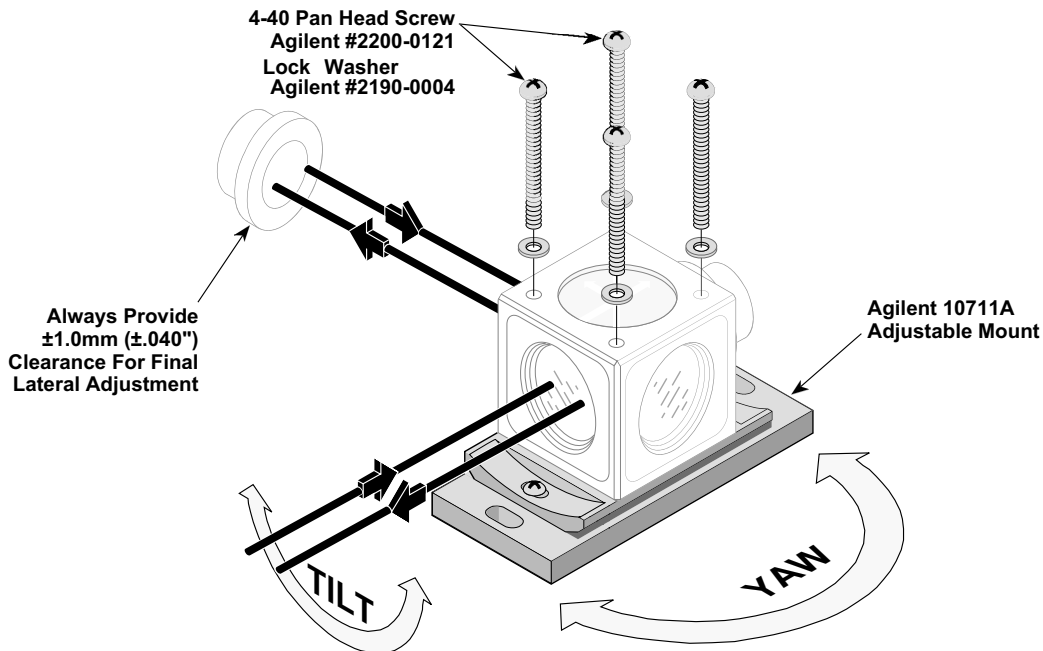

Figure 4-4. Horizontal plane mounting using the Agilent 10711A adjustable mount
3. Figure 4-4 shows how to mount certain linear, plane mirror, or differential interferometers in the horizontal plane, using the Agilent 10711A Adjustable Mount.